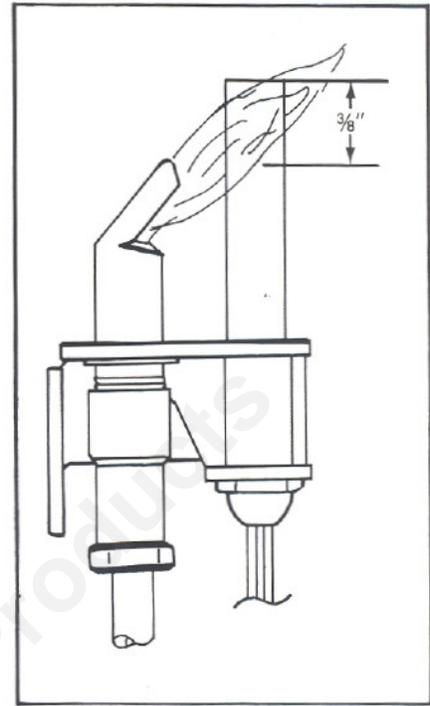

Figure 7
2. Adjust the Pilot key to provide properly sized flame. See Figure 7.
Periodically visually check the flame of the Pilot and Burner, making sure the flames are steady; not lifting or floating. The flame color should be blue. The top $3/8$ " of the Pilot Thermopile should be covered with flame. See Figure 7.